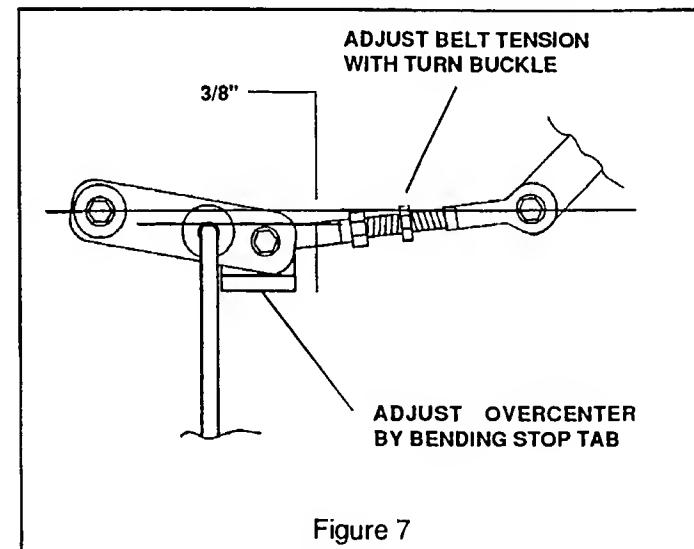

Figure 7
11. Push the mower engagement lever forward until the over-center mechanism snaps into place. Check the over-center spacing as shown in figure 7. Check belt guide, adjust if necessary. Adjust belt tension as shown in figure 2 after over-center spacing is set. Reinstall belt cover.
Engage the blade clutch lever and check for proper over-centering. There should be about  $3/8"$  between rod and straight edge (See fig. 7). Bend the stop tab to adjust the clearance.